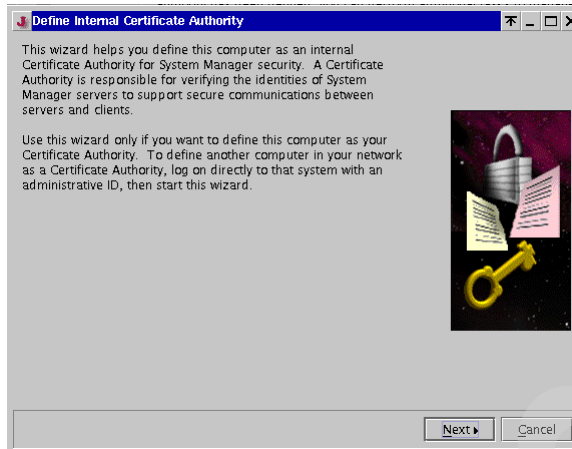

Figure 7-4 Define Internal Certificate Authority wizard
3. The Define Internal Certificate Authority wizard window opens, as shown in Figure 7-4 on page 130. Click **Next**.